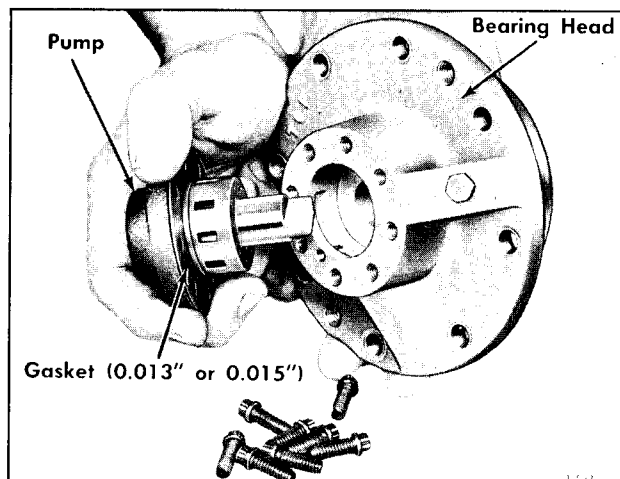

Figure 42—Oil Pump Separated From Head
3. Remove screws which attach oil pump to bearing head. Jar the pump assembly to break the gasket seal (fig. 42). Remove gasket (3).
- a. Insert the new bushing in the bearing head. Attach oil pump to bearing head (fig. 42) using a 0.013" gasket (3).
2. Lubricate gasket (3), then install pump and tighten attaching screws to 6 ft.-lbs. torque.